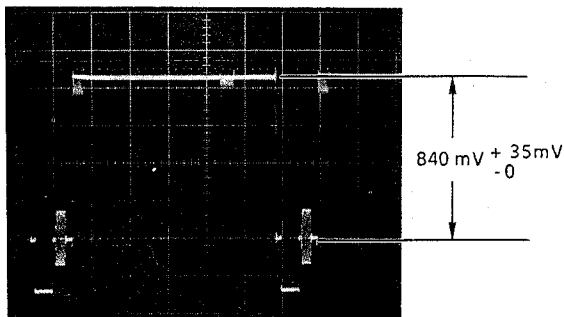

Fig. 4-7
- Adjust data by **ARROW** keys so that signal level becomes  $840\text{mV} \pm 35\text{mV}$  ( $117 \pm 5$  IRE) as shown in Fig. 4-7.